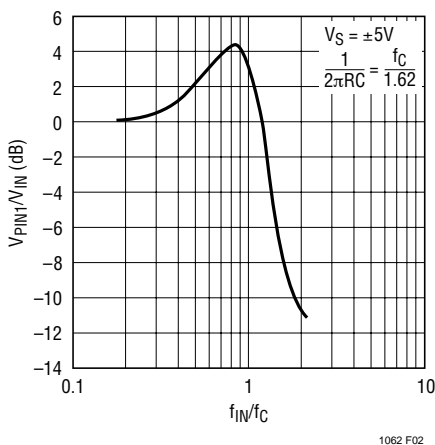

Figure 2. Amplitude Response of Pin 1
Every node of the LTC1062 typically swings within 1V of either voltage supply, positive or negative. With the appropriate external (RC) values, the amplitude response of all the internal or external nodes does not exceed a gain of 0dB with the exception of Pin 1. The amplitude response of the feedback node (Pin 1) is shown in Figure 2. For an input frequency around $0.8 \cdot f_C$, the gain is 1.7V/V and, with $\pm 5V$ supplies, the peak-to-peak input voltage should not exceed 4.7V. If the input voltage goes beyond this value, clipping and distortion of the output waveform occur, but the filter will not get damaged nor will it oscillate. Also, the absolute maximum input voltage should not exceed the power supplies.